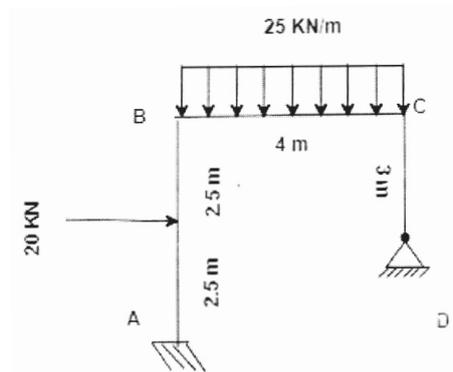

Figure 6
- Q4) Analyze the frame shown in figure 6 by Moment Distribution Method. Draw BMD. [18]